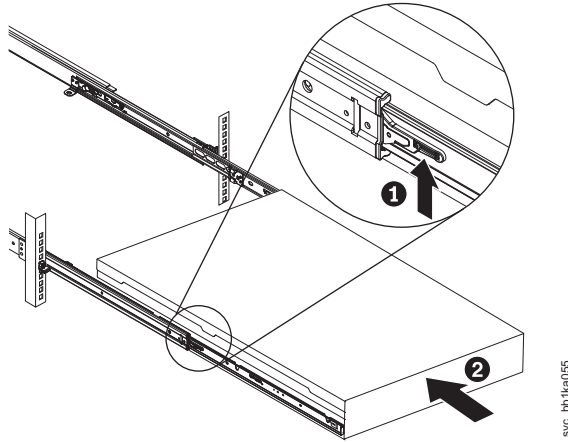

Figure 259. Raising the locking levers of the slide rails of the rack
9. Lift the locking levers (**1** in Figure 259 on page 311) on the slide rails and push the server **2** all the way into the rack until it clicks into place.